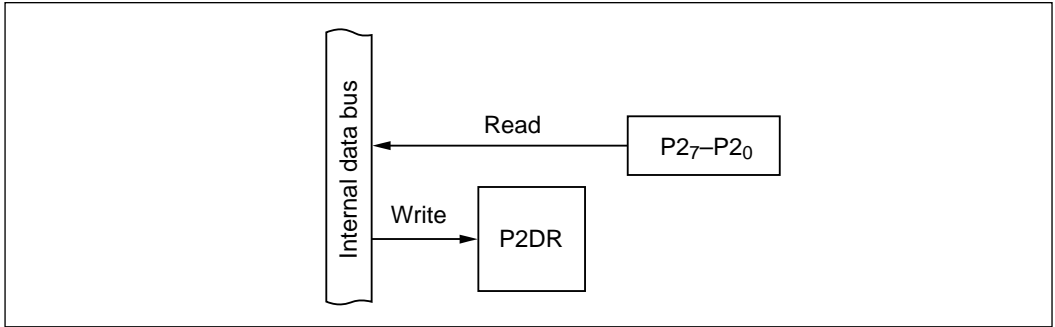

Figure 10-13 Input Port (Modes 2 and 7)
(2) Input Port (Modes 2 and 7): Figure 10-13 shows a block diagram illustrating the general-purpose input function. Table 10-8 indicates register read/write data. Values written in the port 2 data register (P2DR) have no effect on general-purpose input lines. When read, P2DR returns the value at the pin.